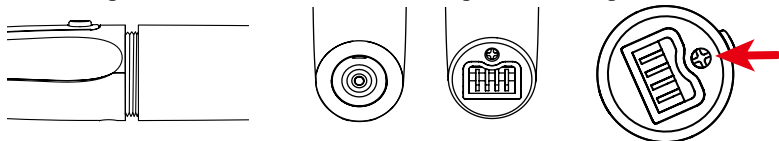

Figure 10 Replacement of battery
When replacing the battery, as shown in Figure 10, first rotate the battery barrel counterclockwise to remove the battery tube, then take the old battery out of the battery tube, replace it with a new one, and finally tighten the battery tube clockwise according to the corresponding thread.
**⚠ Warning:** When removing the battery, the screw under the battery barrel (pointed by the arrow in Figure 10) does not need to be unscrewed, just push the connector slightly inward to remove the battery. Improper replacement of lithium batteries may result in unacceptable risks, so replacement of lithium batteries requires trained personnel.